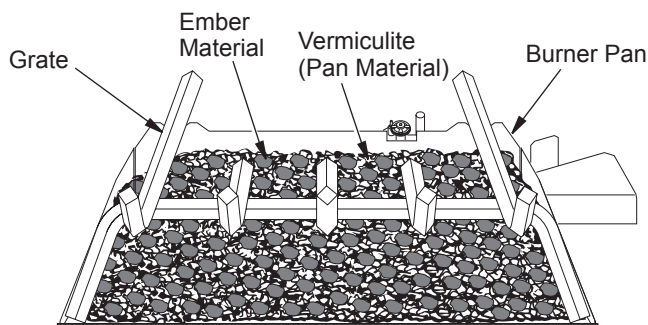

Figure 23 - Ember Material on Surface of Pan Material (Vermiculite)
3. Remove the ember material from the bag and flatten small amounts into quarter size pieces and lay on top of the surface of the pan material (see Figure 23).